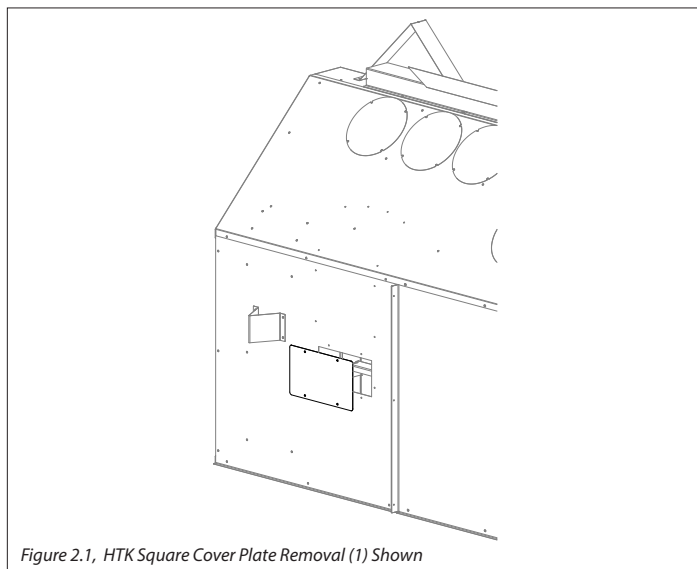

Figure 2.1, HTK Square Cover Plate Removal (1) Shown
1. The outer shell of your fireplace will have cover plate(s) for use with heat transfer kits. Reference the fireplace manual for the location of your heat transfer kit cover plates. See Figure 2.1.